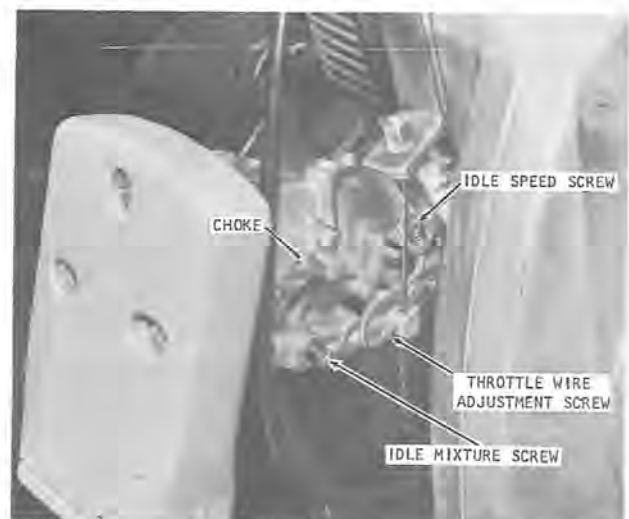

Figure 12
1. With the engine not running, turn the idle screw (figure 12) until it contacts the throttle arm. Turn the screw one additional turn.